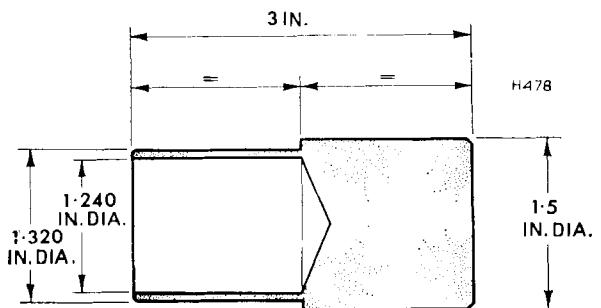

Fig. 10. Extractor tool
8. Provide extractor tool as detailed on Fig. 10.